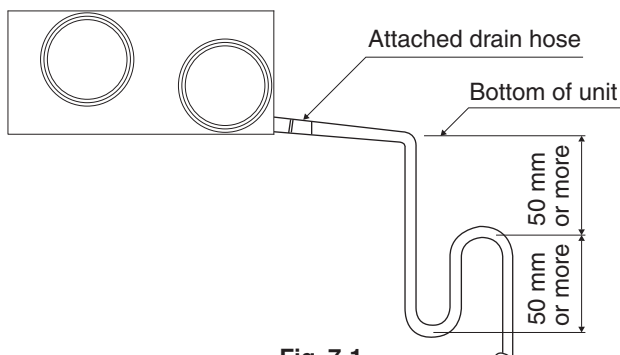

Fig. 7-1
(1) Install the drain piping.
- In case of the direct duct connection system, there is negative pressure inside the unit relative to atmospheric pressure when the unit is running, so be sure to provide drain trap on the drain outlet. (Refer to Fig. 7-1)